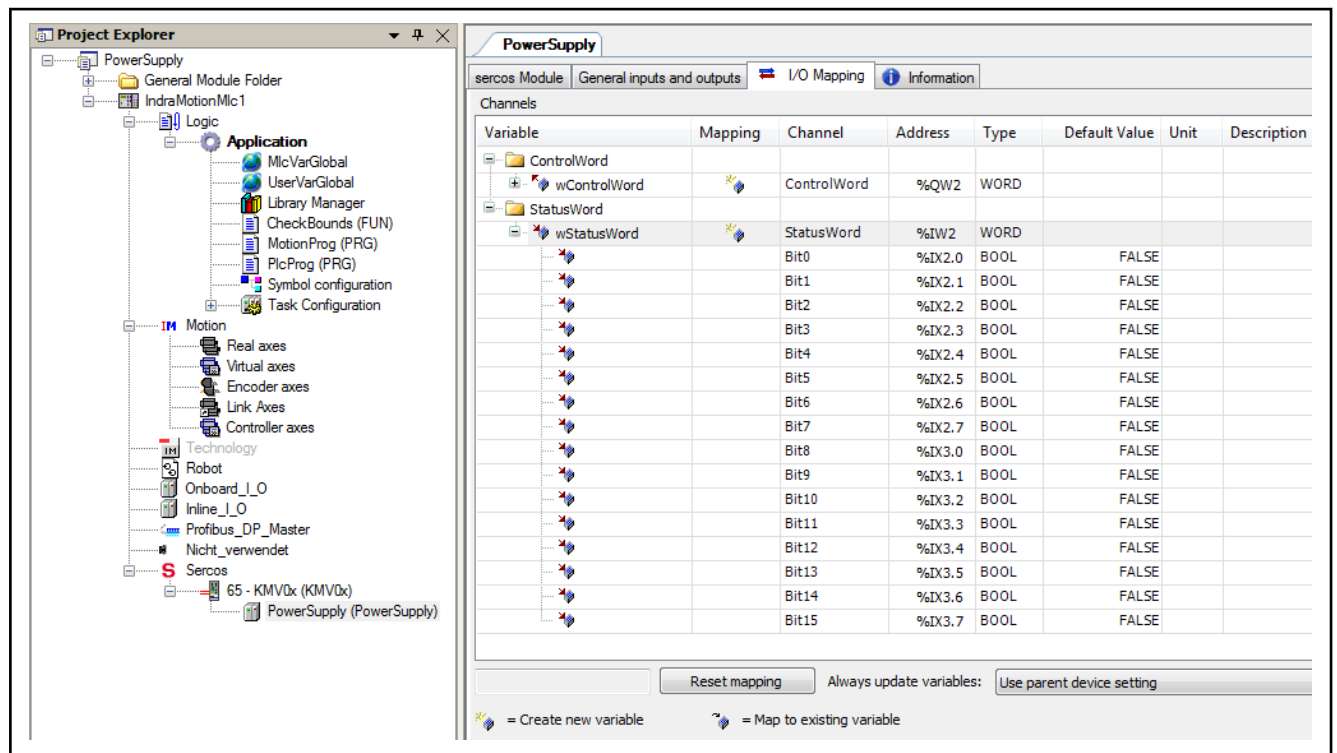

Fig. 6-125: Assigning PLC variables to the configured parameters
The entered name is subsequently output in the "Channel" column in fig. 6-125 "Assigning PLC variables to the configured parameters" on page 515.
4. Enter more parameters until all parameters are configured as shown in fig. 6-125 "Assigning PLC variables to the configured parameters" on page 515.